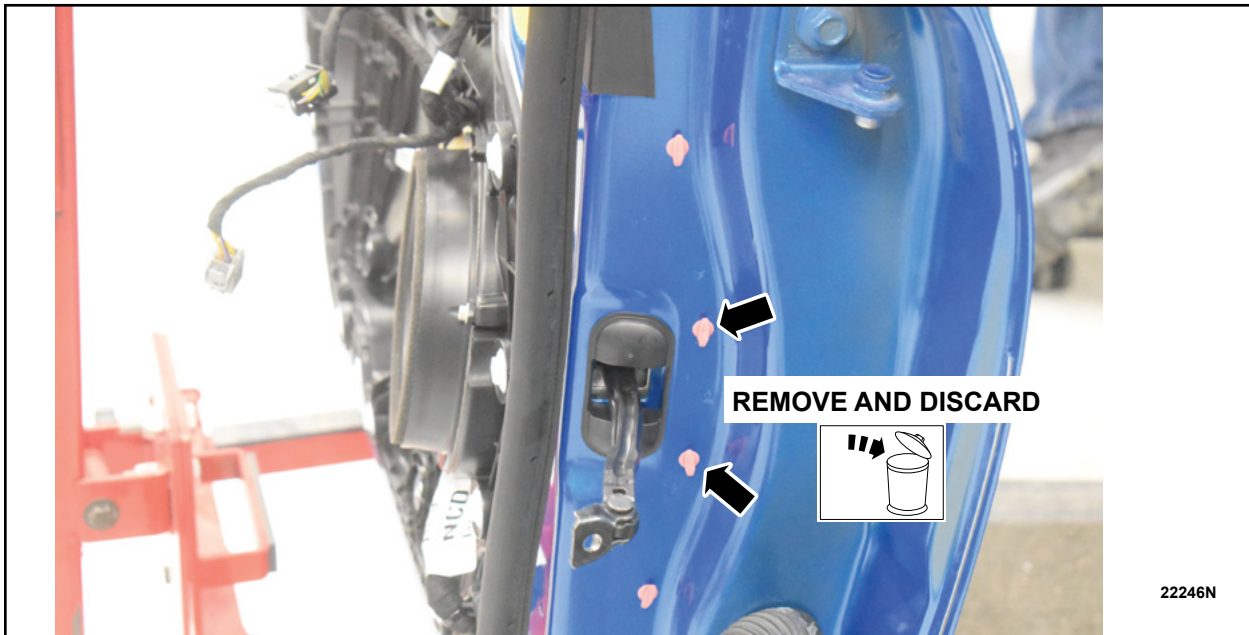

FIGURE 7
- Remove and discard the two (2) retainers closest to the door check arm cover as shown in Figure 7.